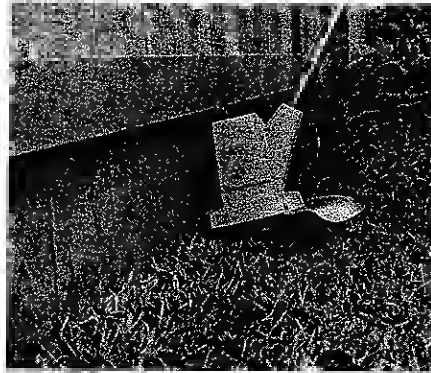

FIGURE 21
11. Always remember the tip of the line does the cutting. You will achieve better results and reduce excessive line wear by not crowding the head into the cutting area. Do not force the unit. The Needle will trim best at its own pace. The correct and incorrect technique is shown in Figures 21 and 22.